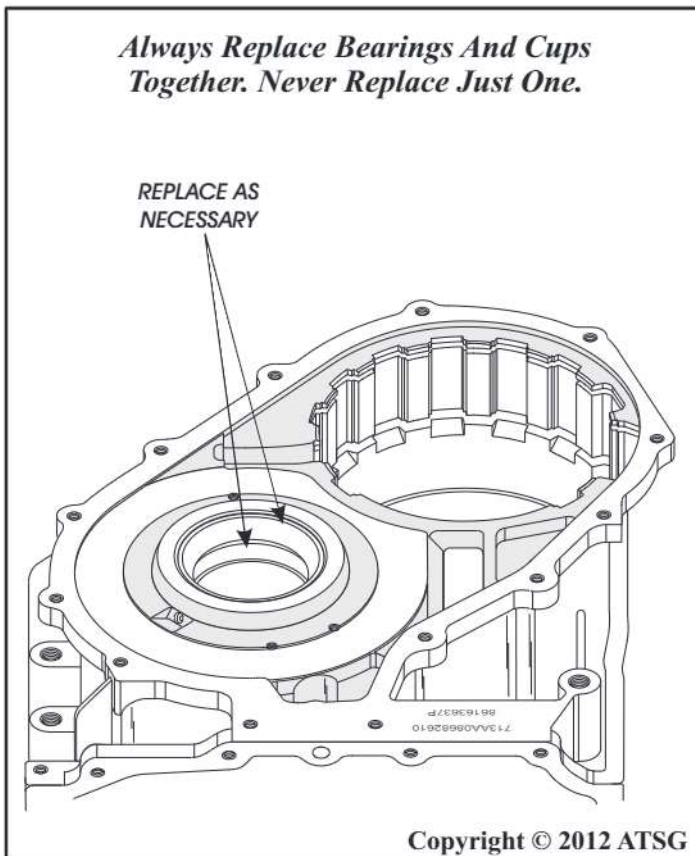

Figure 107
39. If bearing service is necessary, replace the two tapered roller bearing cups for rear planetary carrier and drive transfer gear, as shown in Figure 107, using the proper drivers.